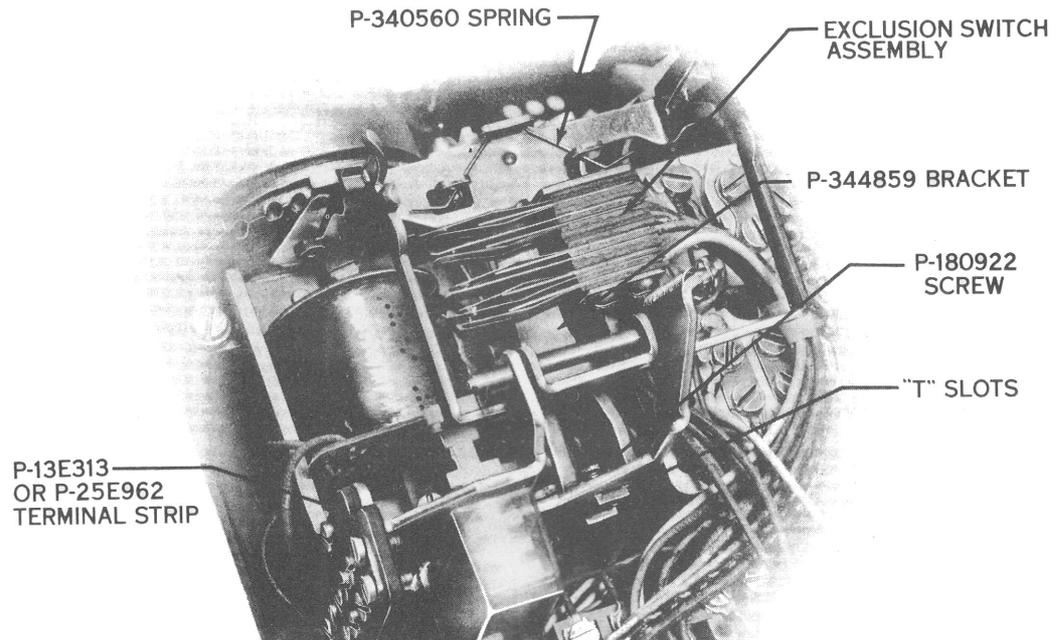

Fig. 4 – P-25E118 Exclusion Switch Assembly, Installed
- (1) Insert the P-344859 bracket into the two T slots precut in the switchhook bracket (Fig. 4).
- (2) Tighten the P-180922 screw which holds the bracket in the T slots.
- (3) Mount the P-340560 spring and exclusion switch assembly on the bracket (Fig. 4).
2.20 Additional terminals for attaching auxiliary equipment in 6-button plug-ended sets must be ordered separately. Sets using the 589-type key require a P-13E313 terminal strip. Those using a 636A key require a P-25E962 terminal strip. (See Fig. 4.) The auxiliary terminal strip attaches to the switchhook bracket.